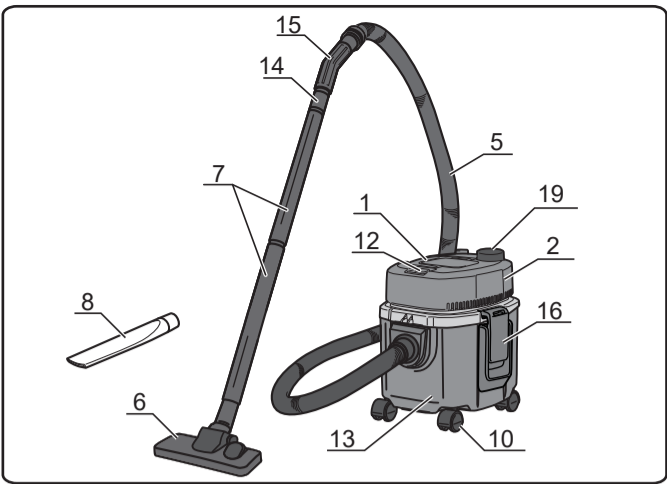

fig.1
- Undo the latches, remove the top cover and take out the items in the container. (fig.1, 2)
- Undo latches(16). (fig.1)